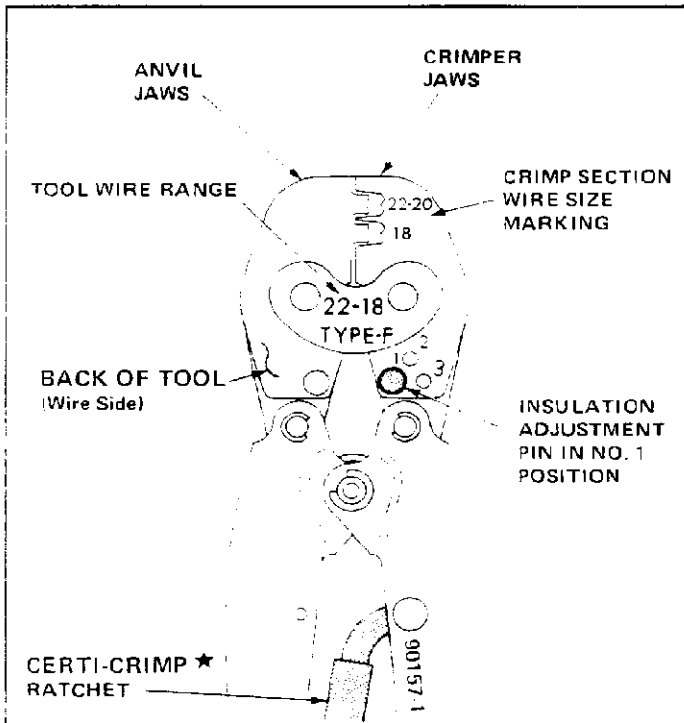

Fig. I-1
**I-2. DESCRIPTION (see Figure I-1)**